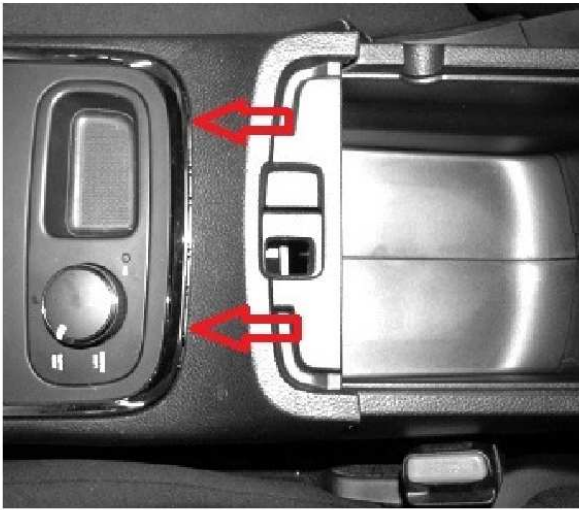

Fig 1 - Pry Up Console Top
3. Gently pull up at storage bin/low range switch (behind shifter) to remove console top (Fig 1).